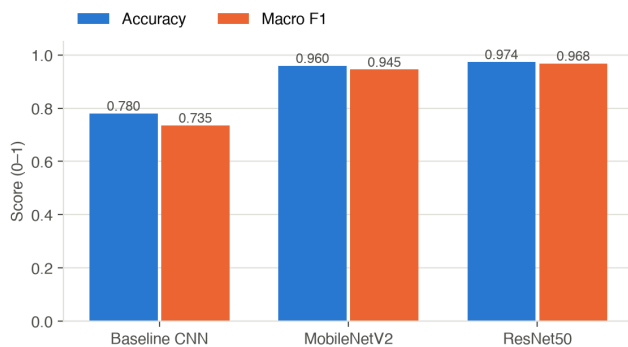

Figure 3. Test accuracy and macro F1 by model.
- 7 Close with the numbers:** the model comparison chart (Figure 3) and the future work in Section 10.